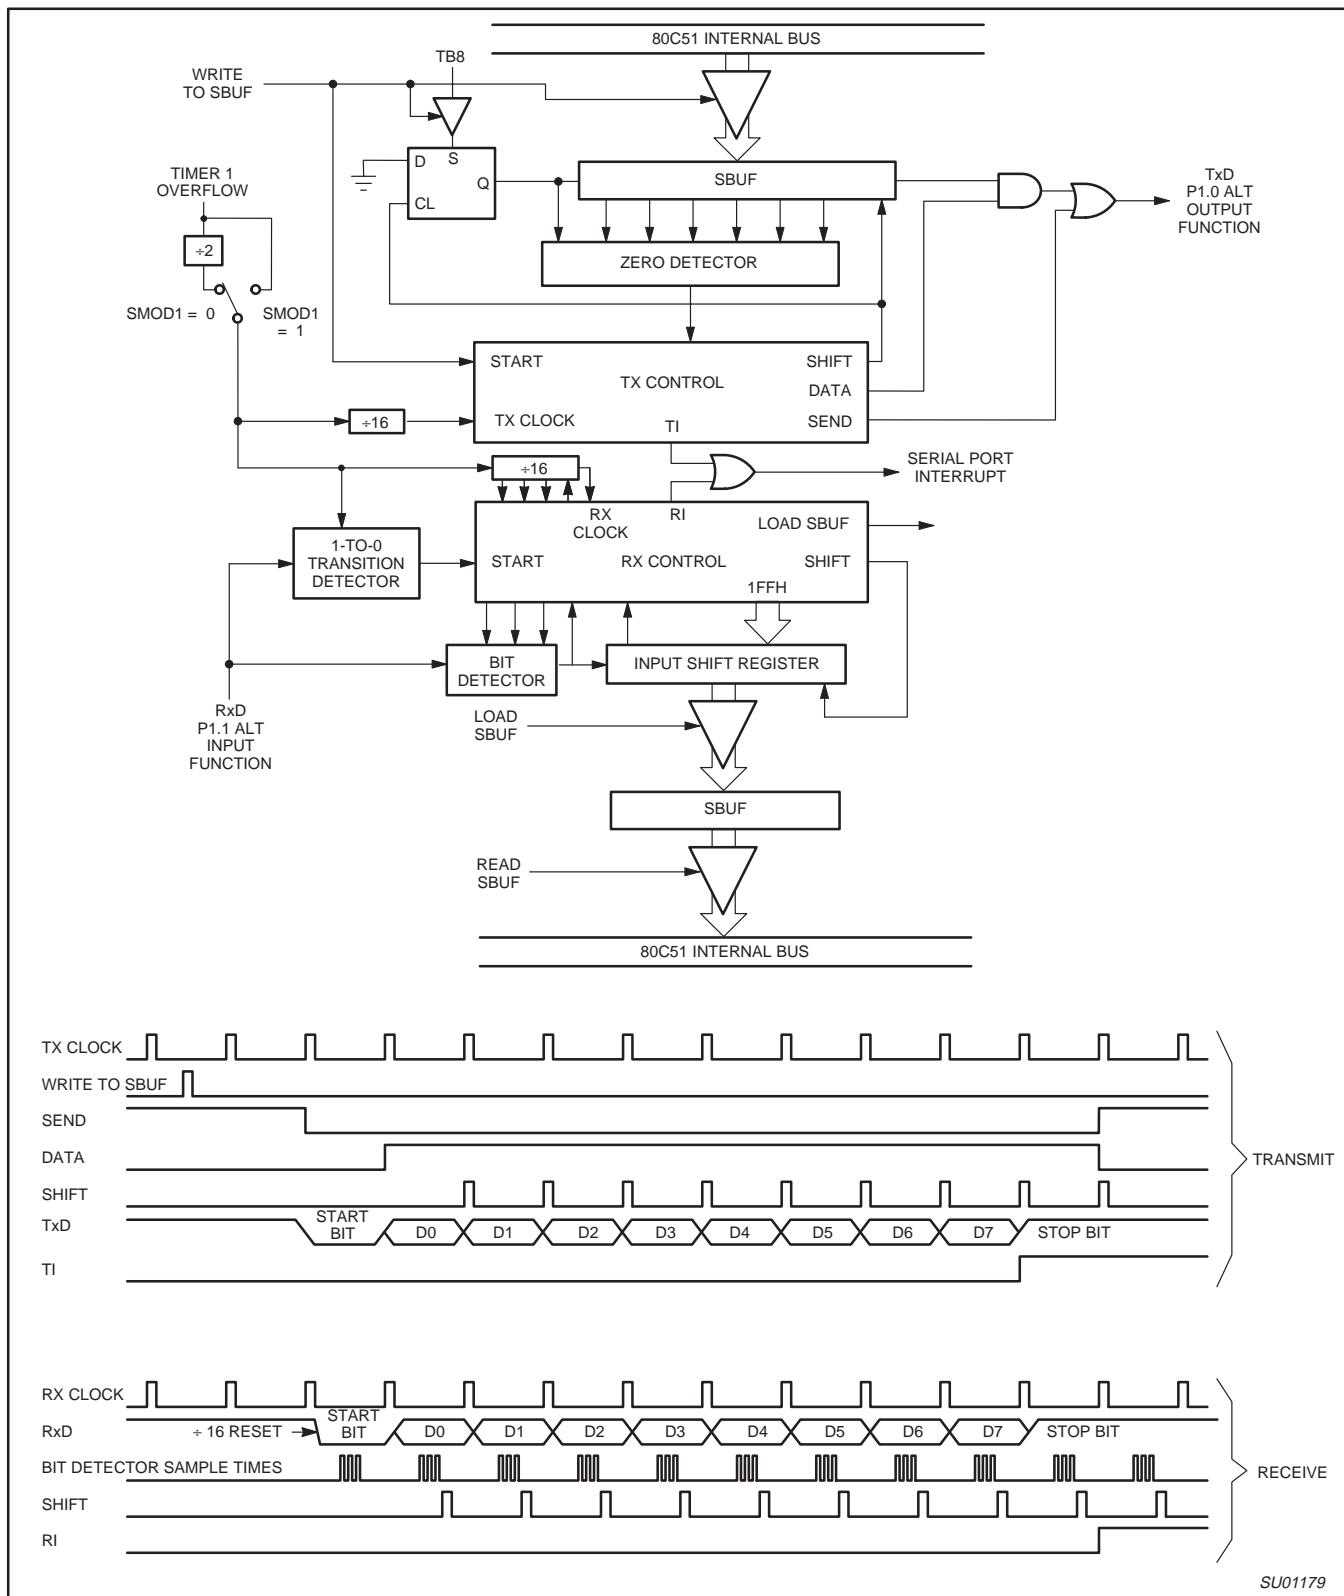

Figure 32. Serial Port Mode 1
Ten bits are transmitted (through TxD), or received (through RxD): a start bit (0), 8 data bits (LSB first), and a stop bit (1). On receive, the stop bit goes into RB8 in SCON. In the P87LPC767 the baud rate is determined by the Timer 1 overflow rate. Figure 32 shows a simplified functional diagram of the serial port in Mode 1, and associated timings for transmit/receive.